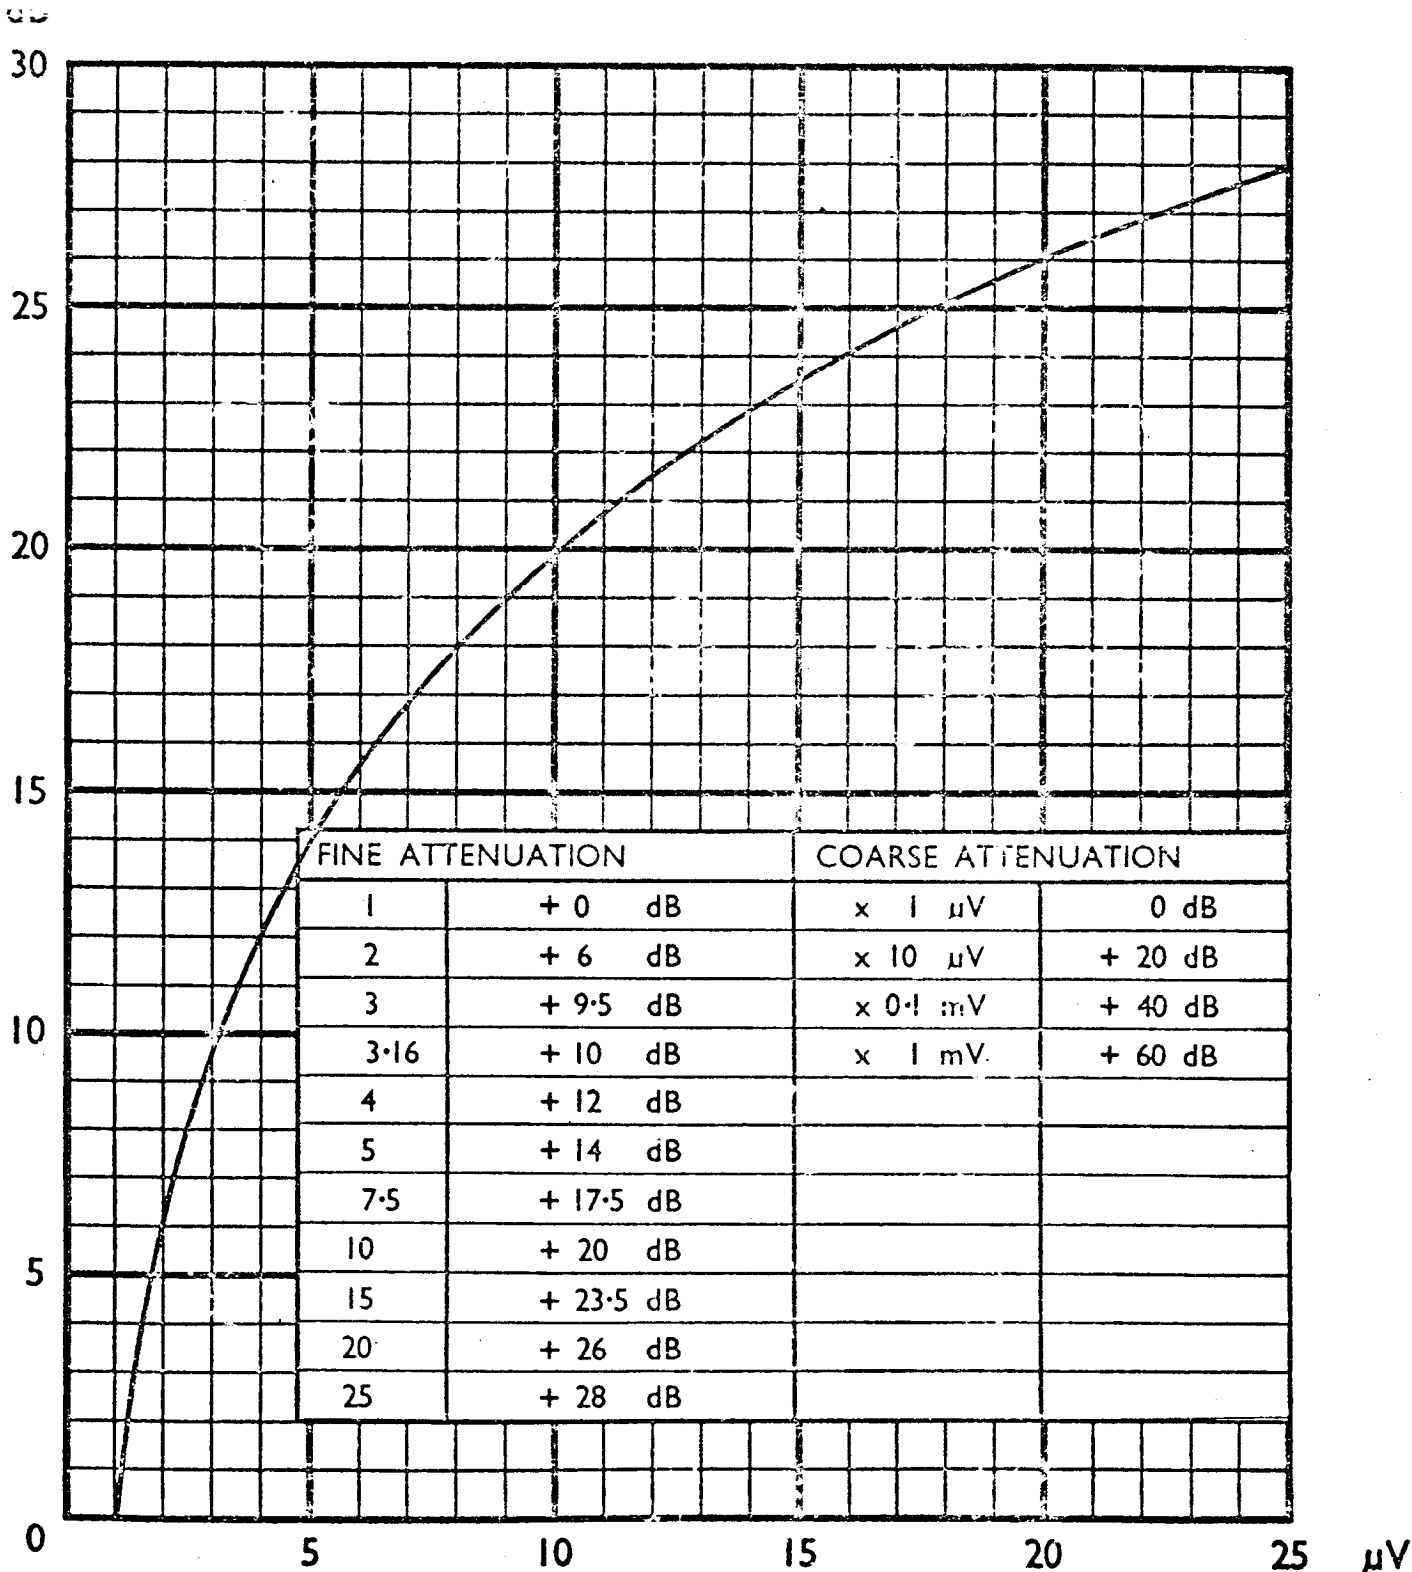

Fig. 2.1.1. ATTENUATOR CONVERSION CHARTS
12. If it is desired to set up or read off a signal in decibels with a reference level of one microvolt across 75 ohms (-or 50 ohms see below), either set up or read off the ATTENUATOR FINE and COARSE dials as in Fig. 2.1.1. which gives a graphical conversion for the 1-25 scale of the FINE control and a tabulated scale for the COARSE, together with notes on the loss of various ATTENUATORS, FIXED, etc. It must be noted that when using a 75 ohm system the decibel reference point:-  $0 \text{ dB} \equiv 1 \mu\text{V}$  across 75 ohms is applicable but when 5905-99-972-6357 ATTENUATOR, FIXED is in circuit the reference level must be changed to  $0 \text{ dB} \equiv 1 \mu\text{V}$  across 50 ohms. To allow for the loss that 5905-99-972-6357 ATTENUATOR, FIXED produces calculate the dB level from the settings of the FINE and COARSE dials and subtract 6 dB.